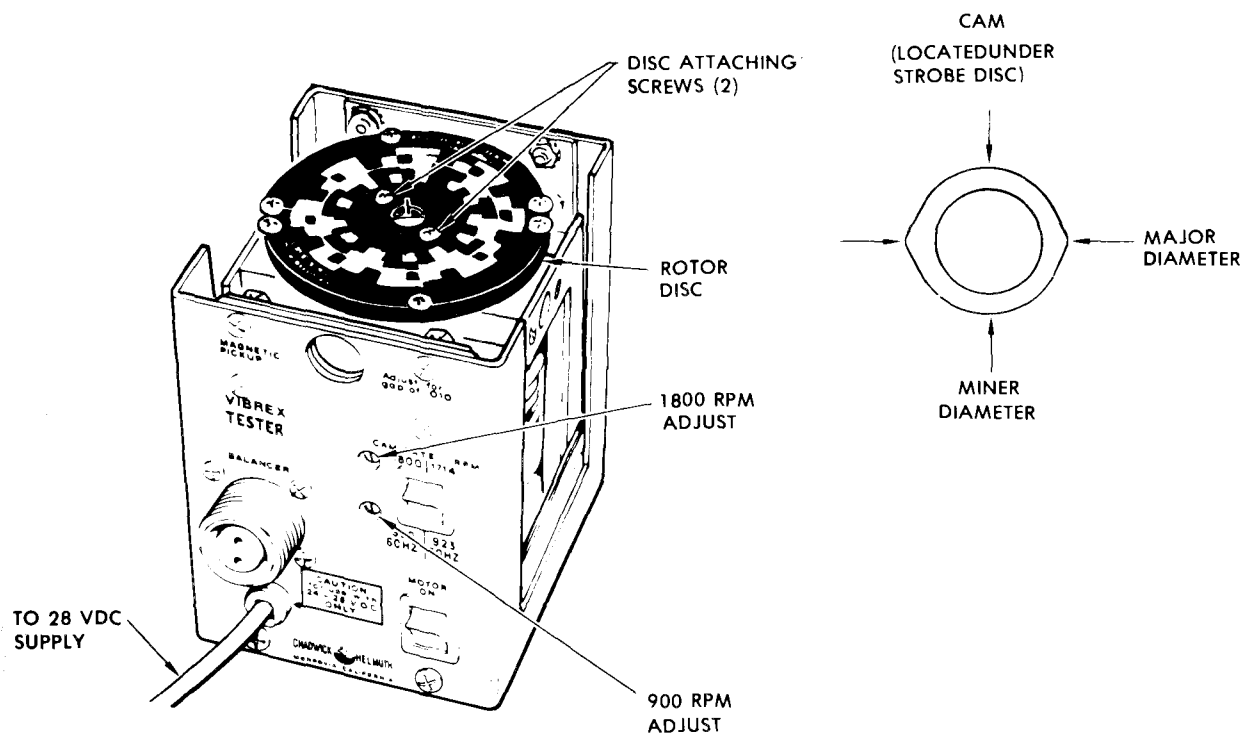

Figure 4-13. Tester Test Setup
*g. Remove two screws and remove rotor disc.* Use a precision micrometer caliper to measure difference between major and minor diameters of cam (Fig. 4-13). Verify that difference is between 0.0166 and 0.0174 inch.